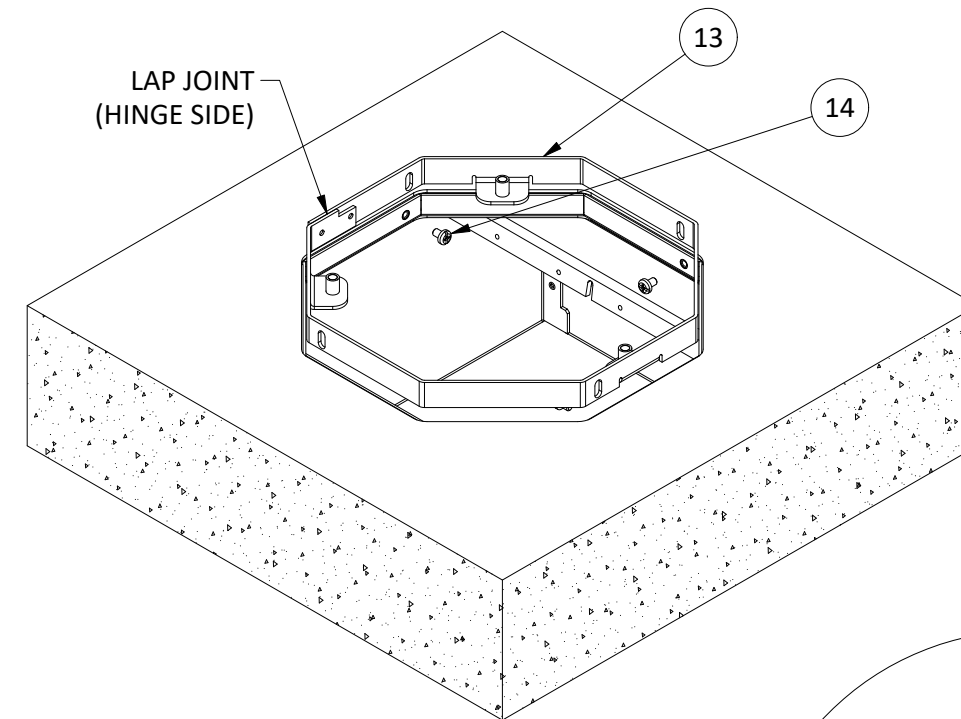

FIGURE 3
**AFTER CONCRETE POUR, SEE FIGURES 3, 4, & 5**
17. Orient cover support collar [13] as required by removing and reinstalling screws [14]. Lap joint in collar defines the hinge location of the cover (SEE FIGURES 3 & 4)